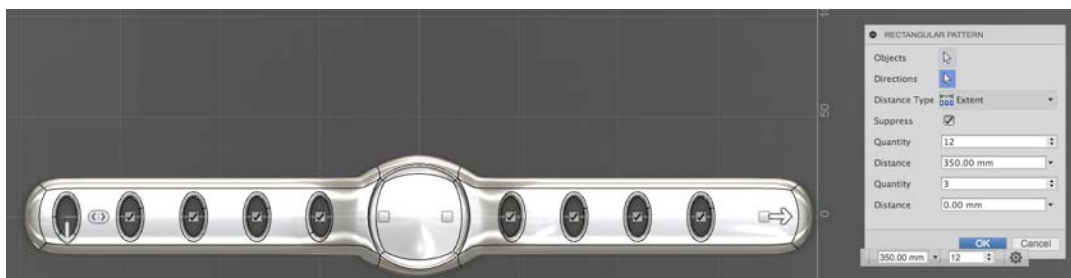

Fig. W12
- e. Uncheck to iterations that sit on case and last iteration (Fig. W12).